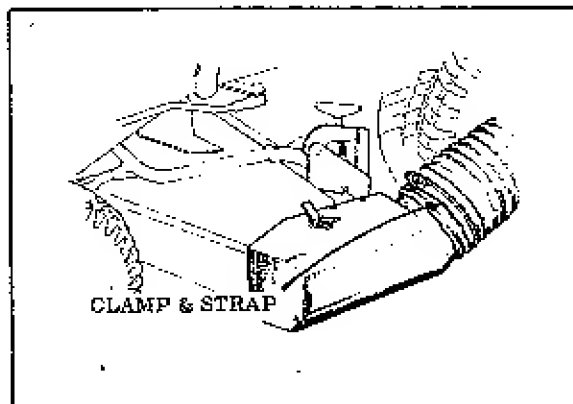
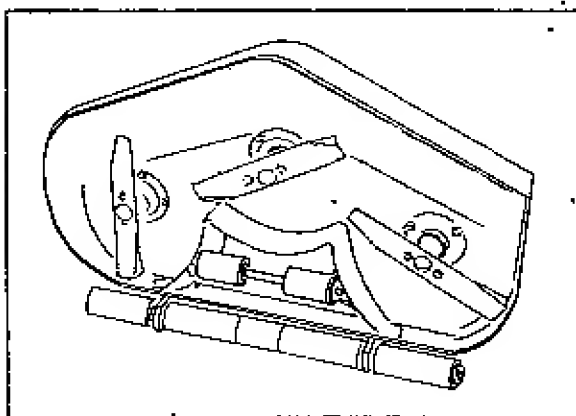
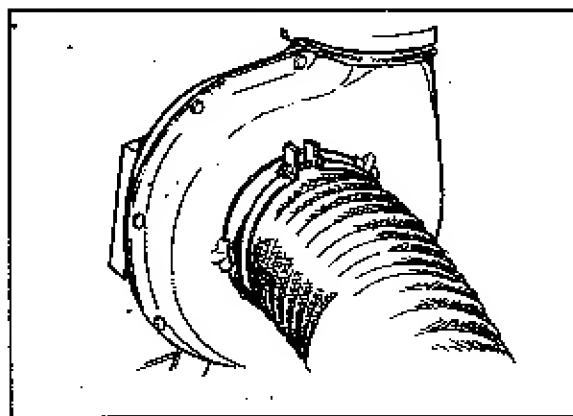
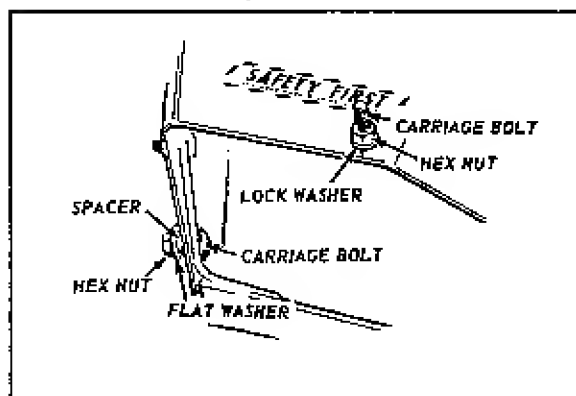

FIGURE 13
FIGURE 11
FIGURE 14
FIGURE 12
2. Prepare the rotary mower attachment for use with the vacuum collector by attaching the correct adapter kit. (Example: See Figs. 11, 12 and 13). Note the bolt nearest the exhaust opening has a spacer and flat washer under the attaching nut (Figure 12). Attach the carriage bolt for the exhaust cover (Figure 12) and secure the cover in position by means of the large wing nut assembly provided in adapter kit (Figure 13).
3. Secure the large hose to the left side of the blower with the clamp, flange and hardware provided (Figure 14) and then place the other end at the large hose securely over the spout extension on the exhaust cover (Figure 13) of the adapter kit.